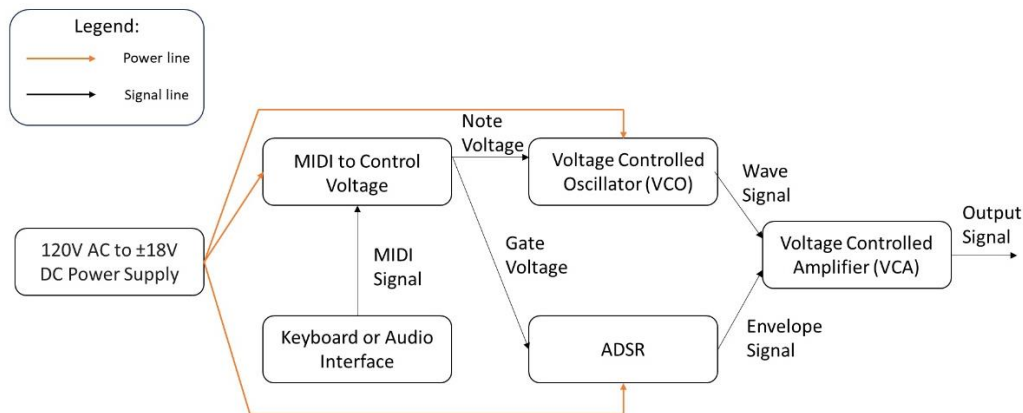

Figure 2.1.1.1: Block Diagram Overview and Example Patching
- **Full Signal Chain Test:** Once individual modules pass their tests, perform an integrated test by applying a MIDI signal from an external controller and monitoring the resulting audio output after connecting the modules as shown in Figure 2.1.1.1.